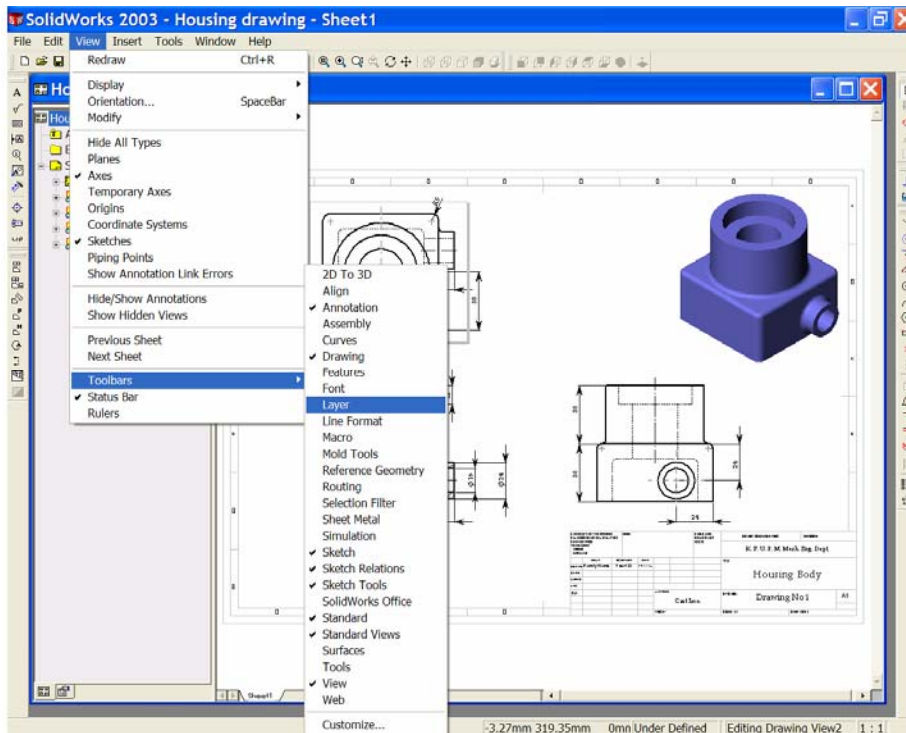

Figure 1
2. *The first enhancement we will add to the drawing will be layers.* Figure 1 indicates the route to the layer toolbar. Go ahead and open the layer toolbar. The toolbar may **'float'** or may be **'anchored'**, (fixed) at a convenient location on your screen.